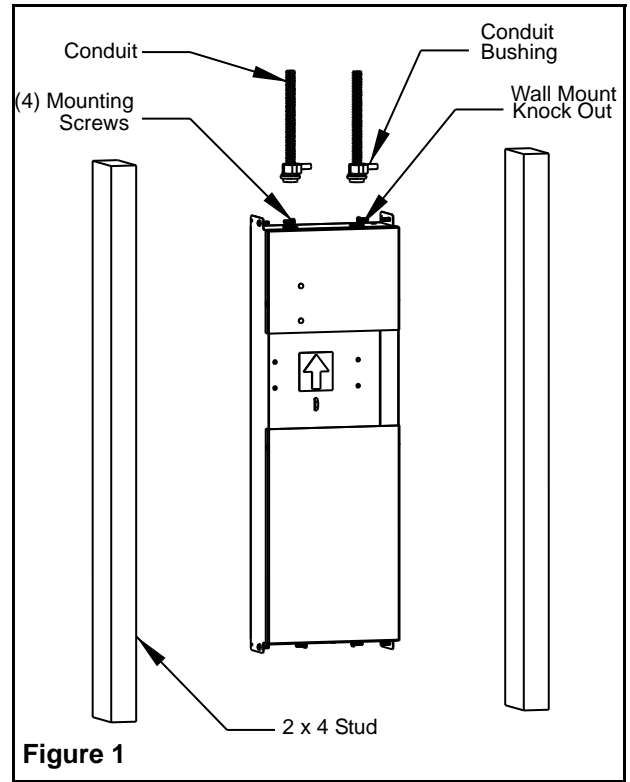

Figure 1
Wall Mount Back-Box Installation (Figure 1)
1. Knock out the hole(s) on top of the back-box for incoming cable(s) (AC line and/or DC emergency line). (Figure 1)
2. Position the back-box at the desired location to be flush with the front edge of the stud observing mounting orientation (Figure 1).
3. Use appropriate fasteners (not supplied) to mount the back-box on the stud (Figure 1).